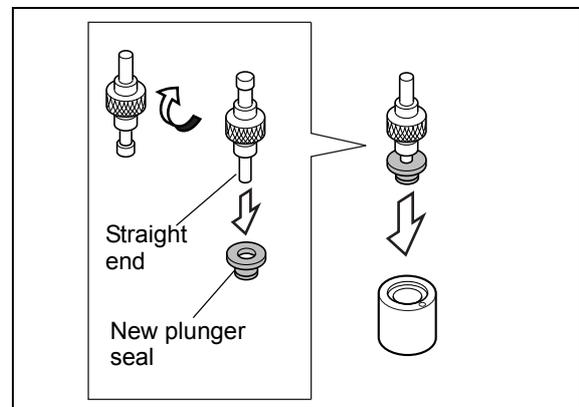

Fig. 7.12
- 5** Place the new seal on the straight end of the seal installer/remover tool. (Refer to Fig. 7.12 about seal direction.)